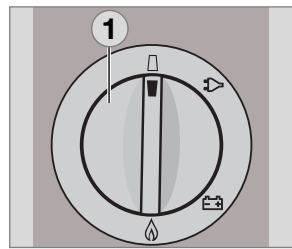

Fig. 39
- For battery igniter models, set energy selector switch "1" to position "OFF". The appliance is switched off (Fig. 39).